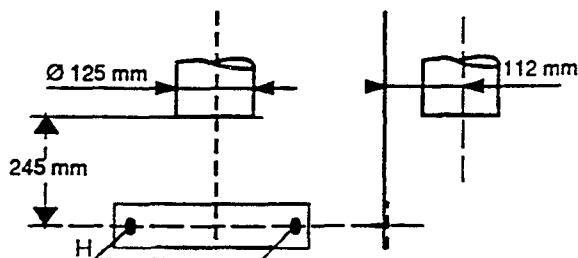

Fig. 25
Positioning the boiler (see fig. 25)
- Using bracket as template mark 2 fixing points (H).
- Drill 2 fixing holes (H) and plug.
- Fix bracket to wall using 6 mm x 50 mm wood screws provided (see fig. 25).